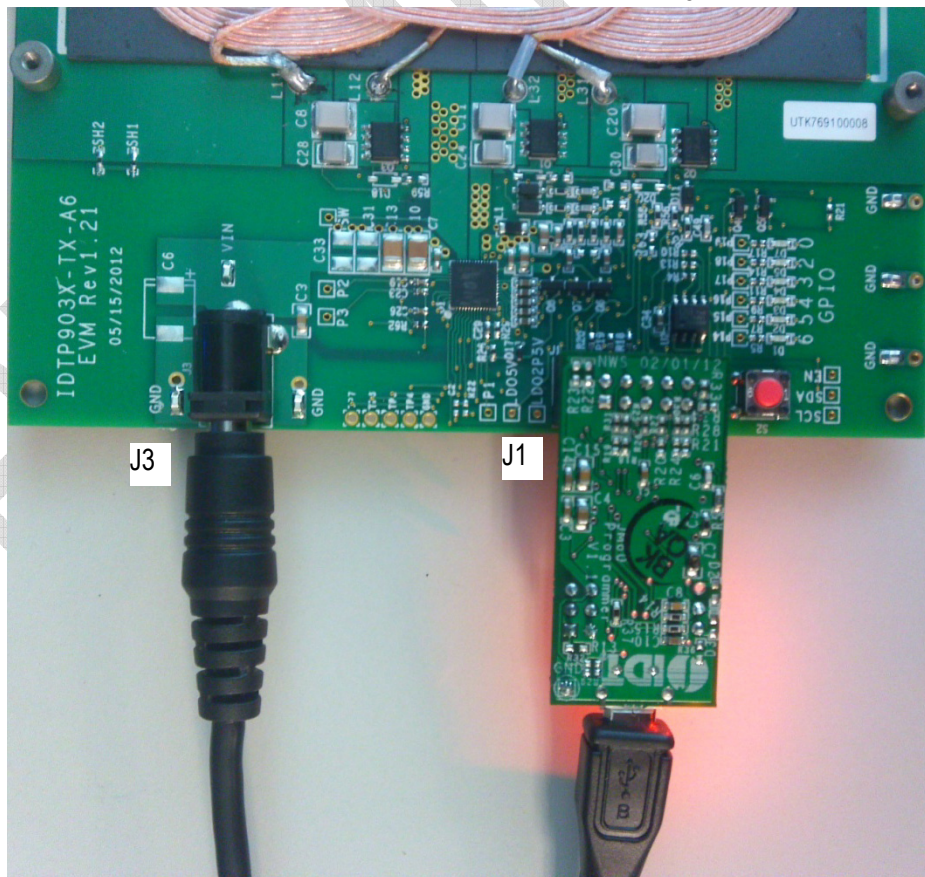

Figure 18. IDTP9036A-EVAL JM60, AC Adaptor connections.
2. Connect the JM60 to the connector of the IDTP9036A-TX-A6 EVM board (J1 Figure 18).
3. Plug the AC adaptor into the wall (120 VAC) and connect the other end (12 VDC) into the adapter plug on the EVM board (J3 Figure 18).